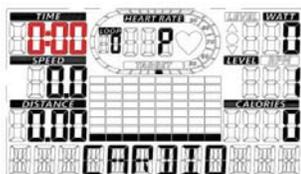

Fig. 22
- (b) To set time, press UP (▲)/DOWN (▼) buttons (Fig. 22). When finish, press “SET” button to confirm and then press “START” to begin the workout.